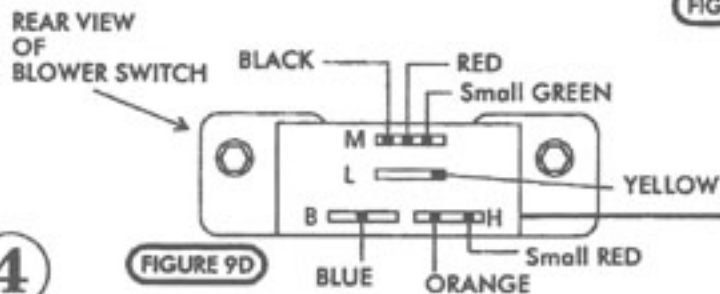

FIGURE 9D
- CONNECT THE WIRING HARNESS TO BLOWER SWITCH AS SHOWN IN FIGURE 9D (REFER TO WIRING DIAGRAM ON PAGE 8).